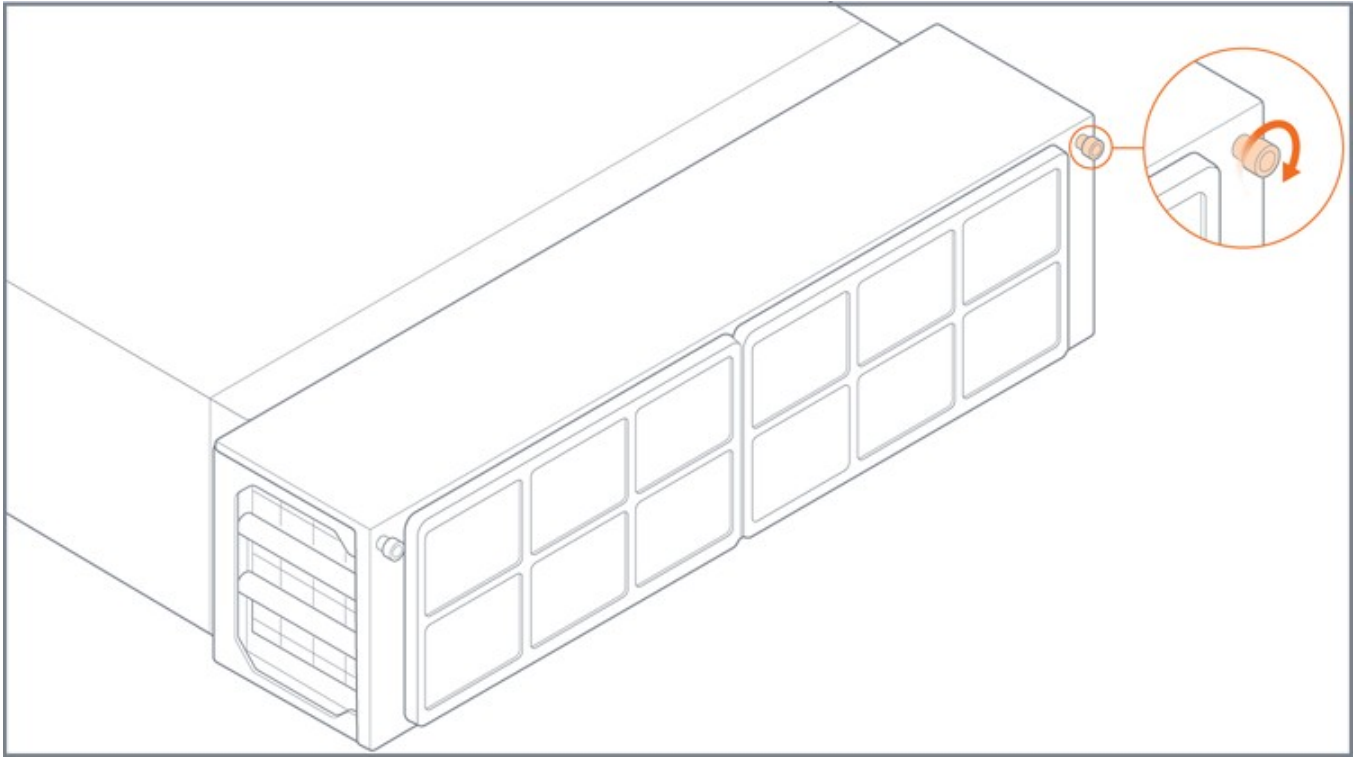

Figure 3-8: External Air Filter
5. Slide the top and front, which contains the external air filter, onto the cable management assembly. Refer to Figure 3-8.